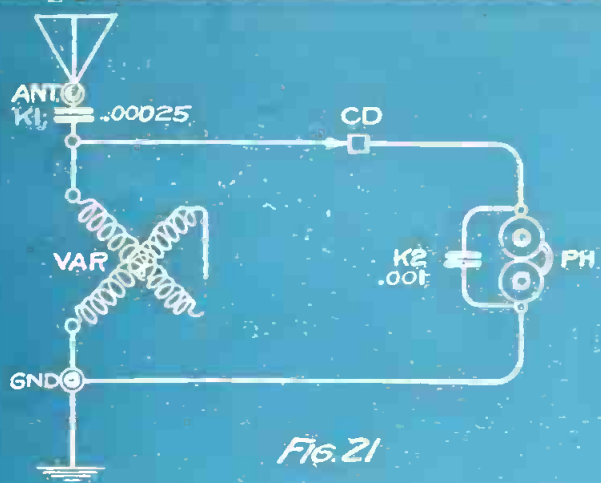
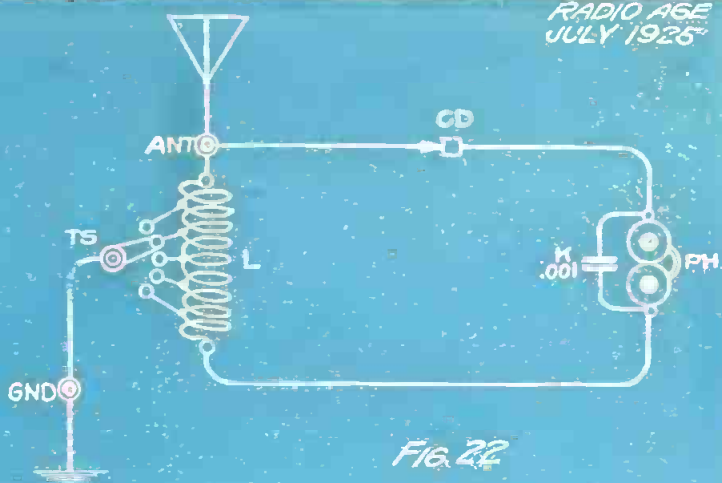

FIG. 21
FIG. 22
A simple crystal detector set, tuned by the variometer (VAR) is shown in Fig. 21. Here we have the symbols for the variometer, crystal, aerial, ground, phones and two fixed condensers. Note that when two condensers are shown that they are numbered as at (K1) and (K2). In Fig 22 we have another single circuit crystal set tuned by a simple tapped inductance (L), the tap switch